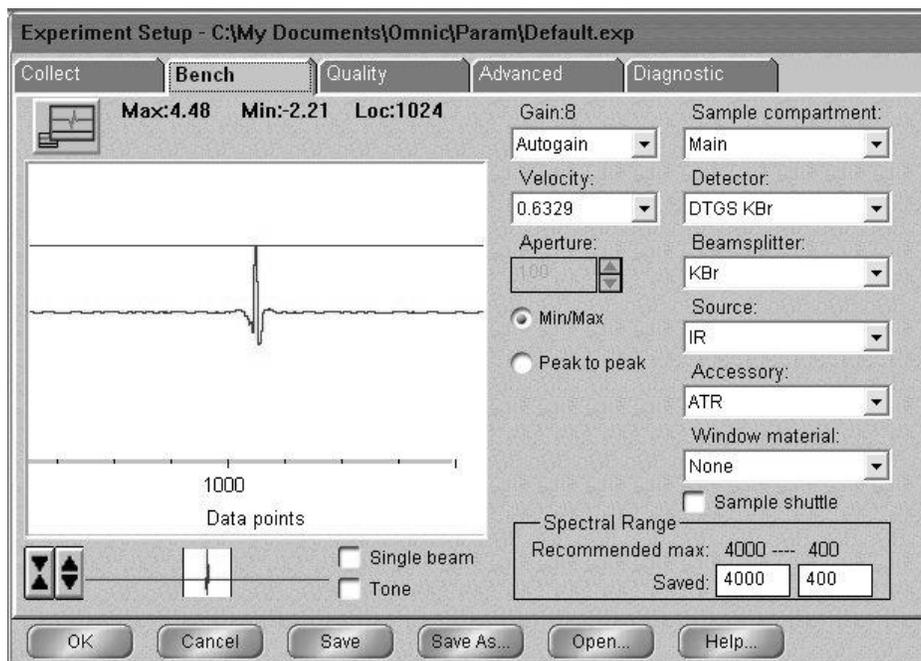

Figure 11: The Bench tab of the Experiment Setup window.
- 4.e. Under the *Bench* tab, set the accessory to *ATR*. In the Log Book, record the *Max*, *Min*, and *Loc* values found at the top of the window, seen below in Figure 11.